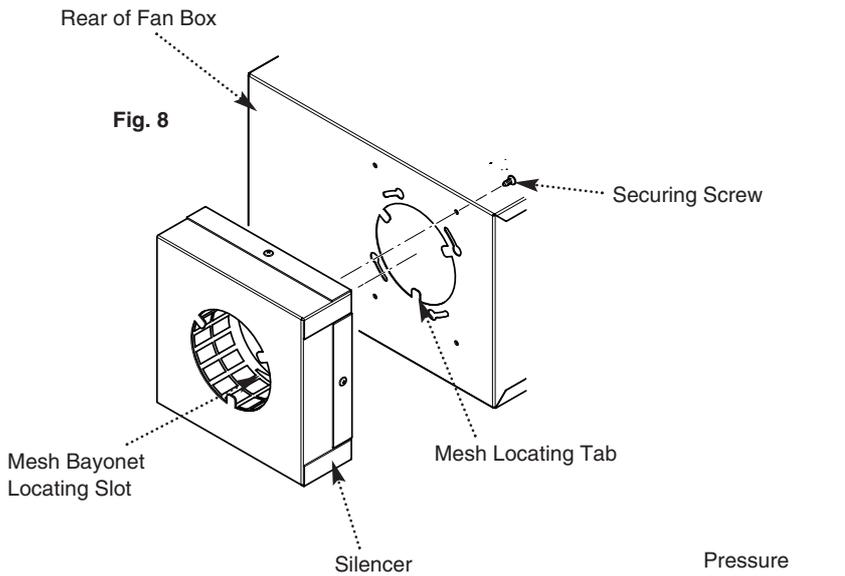

Fig. 8
16. Align the silencer assembly to the new fan box. Ensure that the three tabs on the silencer correspond with the three tabs on the fan box (Fig. 8).
17. Push the circular mesh into the fan box. Ensure that both sets of tabs are located in the three mesh bayonet slots (Fig. 8).